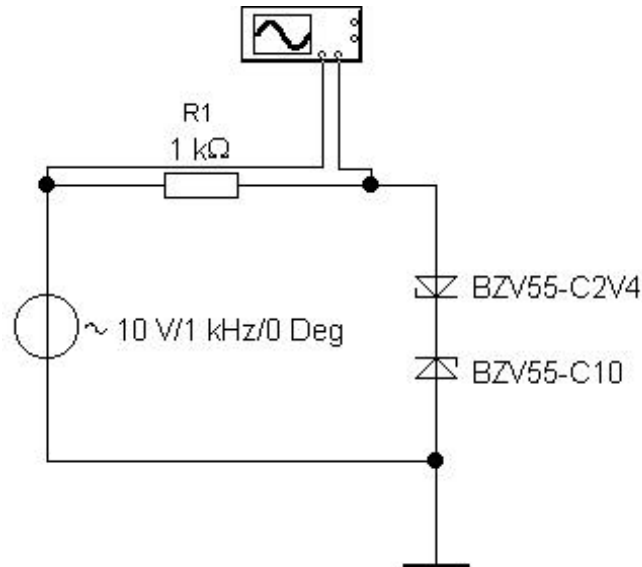

Figure 5.2
- (d) Connect the circuit shown in Figure 5.2 below. Note that it's not enough to change the labels of the diodes to get different zener voltages.